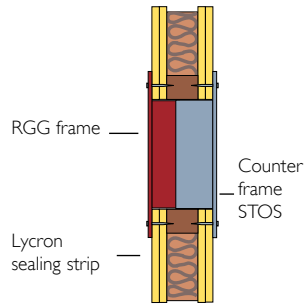

Fig. 6
**RGG** frames and the flanges of the **Counter frame** are screwed into the wall (fig. 6). A Lycron sealing strip should be used between the wall and the flange to provide a gas tight seal. The galvanised counter frame is available with three different standard depths, which are suitable for the most common wall thicknesses, see below.